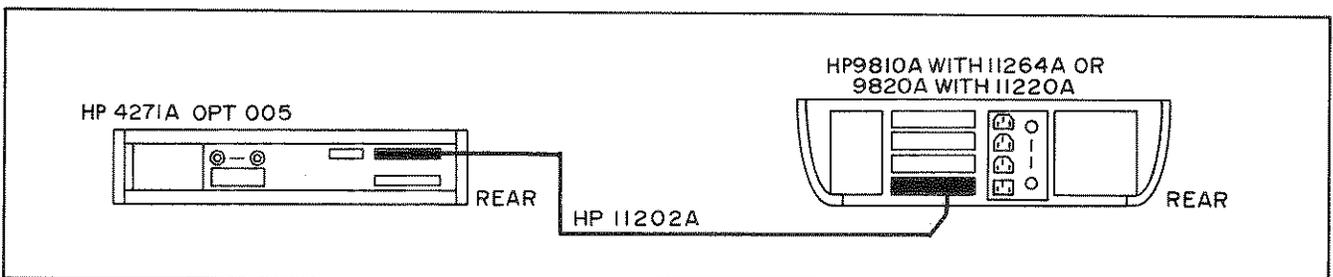

Figure 3-20. Calculator Interface: OPT 005.
- b. The instrumentation interconnection setup for measuring and processing with an instrument equipped with OPTION 005 is shown in Figure 3-20.